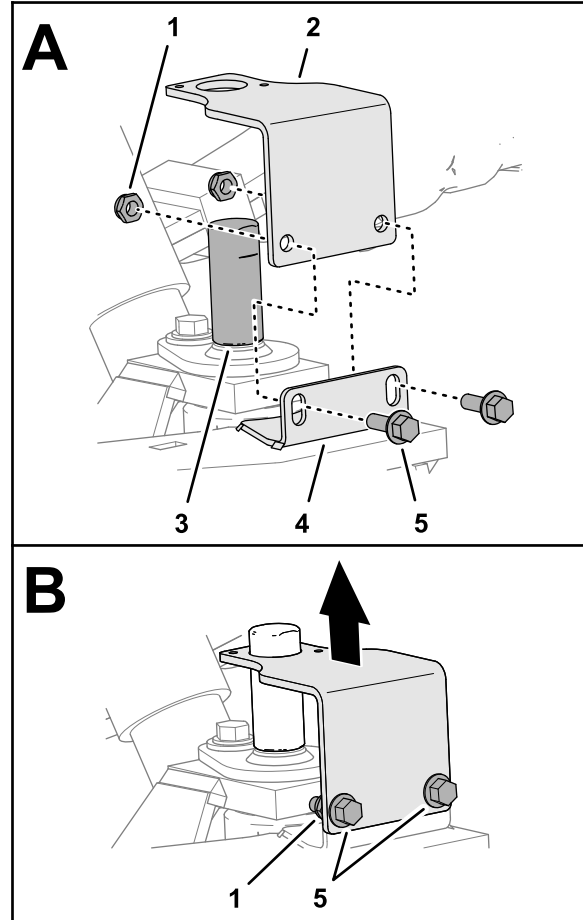

Figure 18
3. Align the sensor bracket over the alignment tool and the slots in the flange of the spindle (Figure 18).
4. Loosely assemble the bracket to the flange (Figure 18) with 2 flange-head capscrews (1/4 x 3/4 inch) and 2 locknuts (1/4 inch).
5. Position the bracket to the bottom of the slots in the flange of the spindle, and tighten the flange-head capscrews and locknuts (Figure 18).